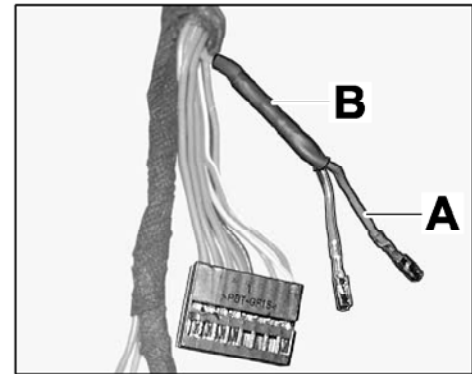

Figure 11
- 3.6.2 Crimp micro-quad lock (999.652.901.22) ⇒ *Figure 11 -A-* at one end of the additional electric line 0.352.
- 3.6.3 Connect the other end of the additional electric line 0.352 as a splice ⇒ *Figure 11 -B-* to the electric line RD/GN 0.352 from **chamber 4** (30G I).